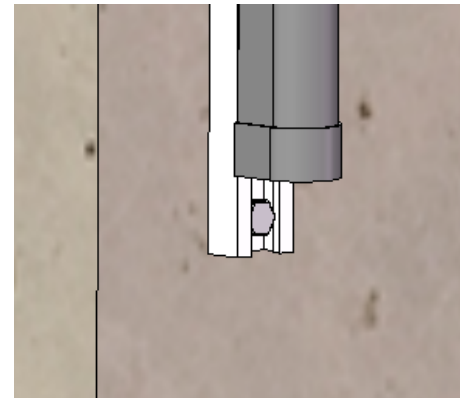

Fig 3
3. Install a screw below the rubber edge material and into the aluminum channel to prevent the edge material from sliding. Fig 3.